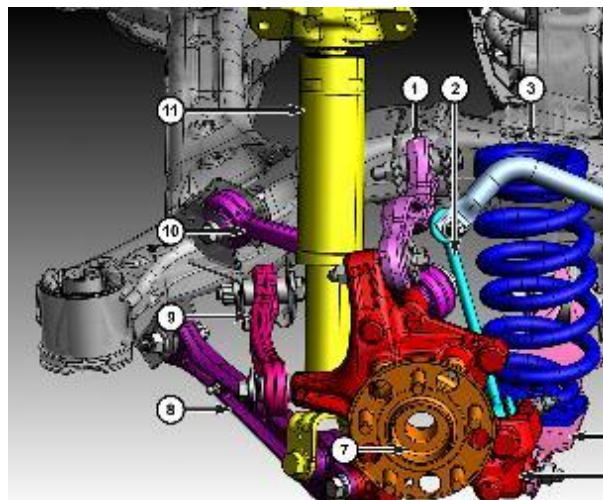

Figure 8 – Rear Suspension
- 9. Place a jack under the compression link (8) at the shock absorber end (Figure 8).